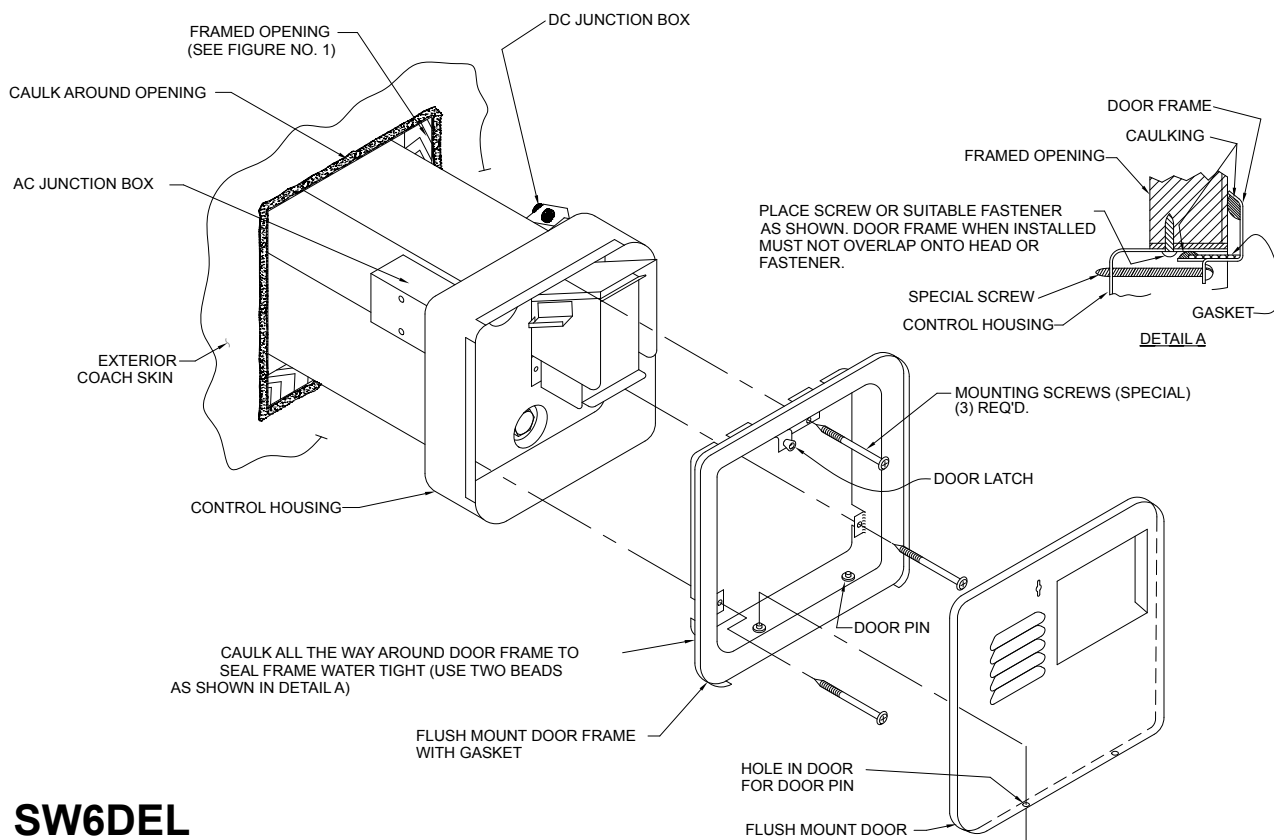
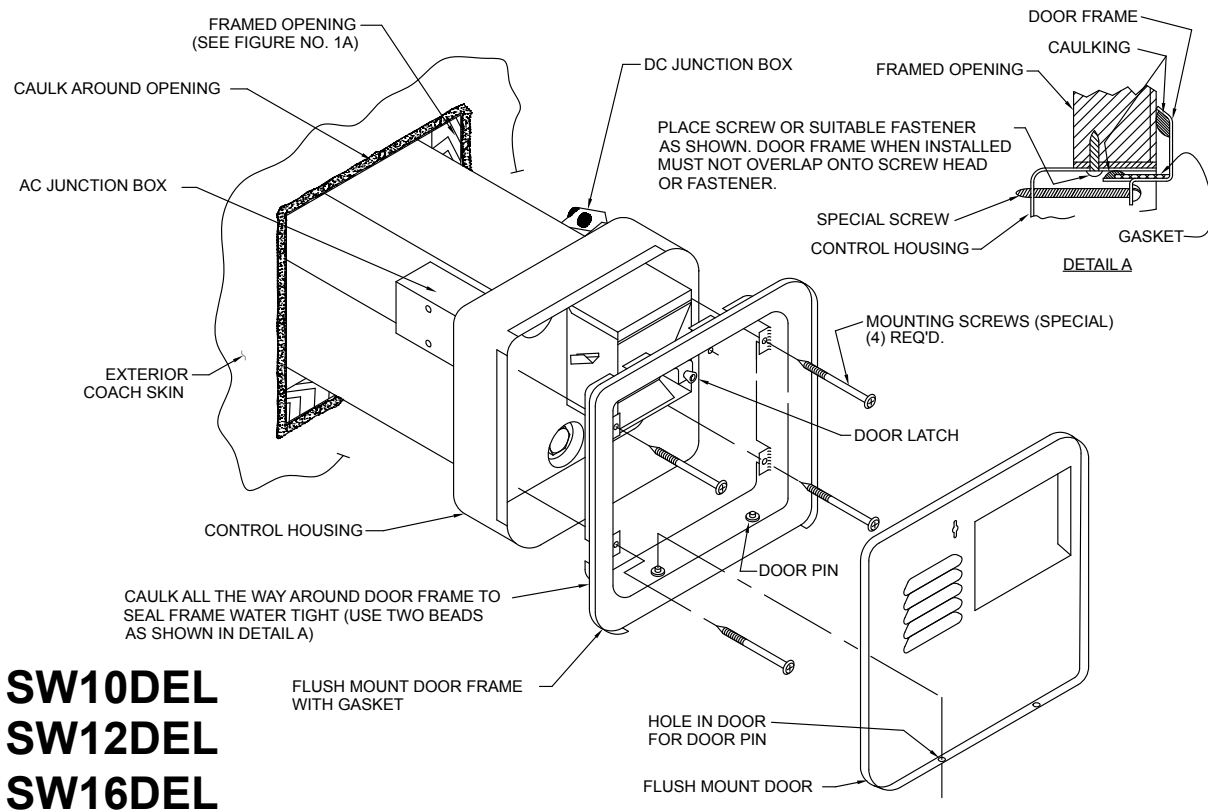

Figure 2
Figure 2A
(See Figure 2 SW6DEL; Figure 2A SW10DEL, SW12DEL, SW16DEL)
- A. Refer to Figure 2 for location of D.C. junction box on SW6DEL.
- A. Refer to Figure 2 for location of A.C. junction box.